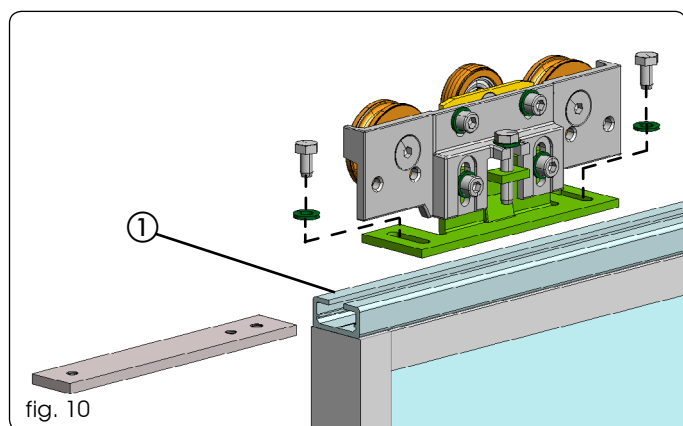

fig. 10
2. Position two carriages on each leaf, using the supplied plates and screws as shown in Fig. 10.